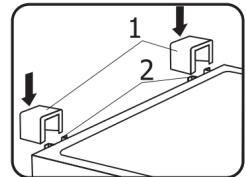

fig. 4
- Place the bumpers (1) in the guides (2) of the upper part of the back wall (fig. 4).